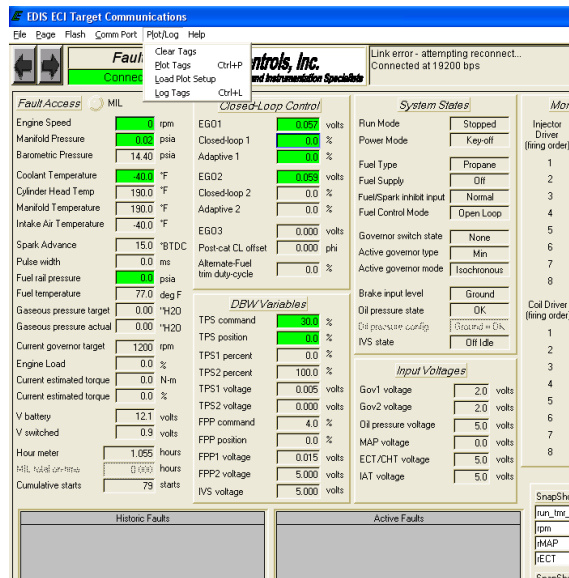

Figure 5: Tagged Variables for Plot/Log
Figure 5 shows an example of variables that have been tagged. A maximum of twenty (20) variables may be tagged for logging and plotting.